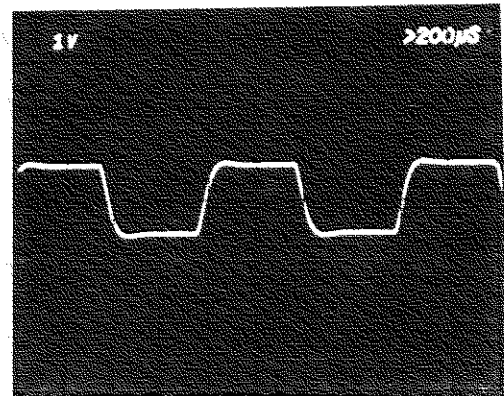

FIGURE 5-6. TYPICAL HIGH FILTER SQUARE WAVE OUTPUT
3. Check that the square wave output is as shown in Figure 5-6.